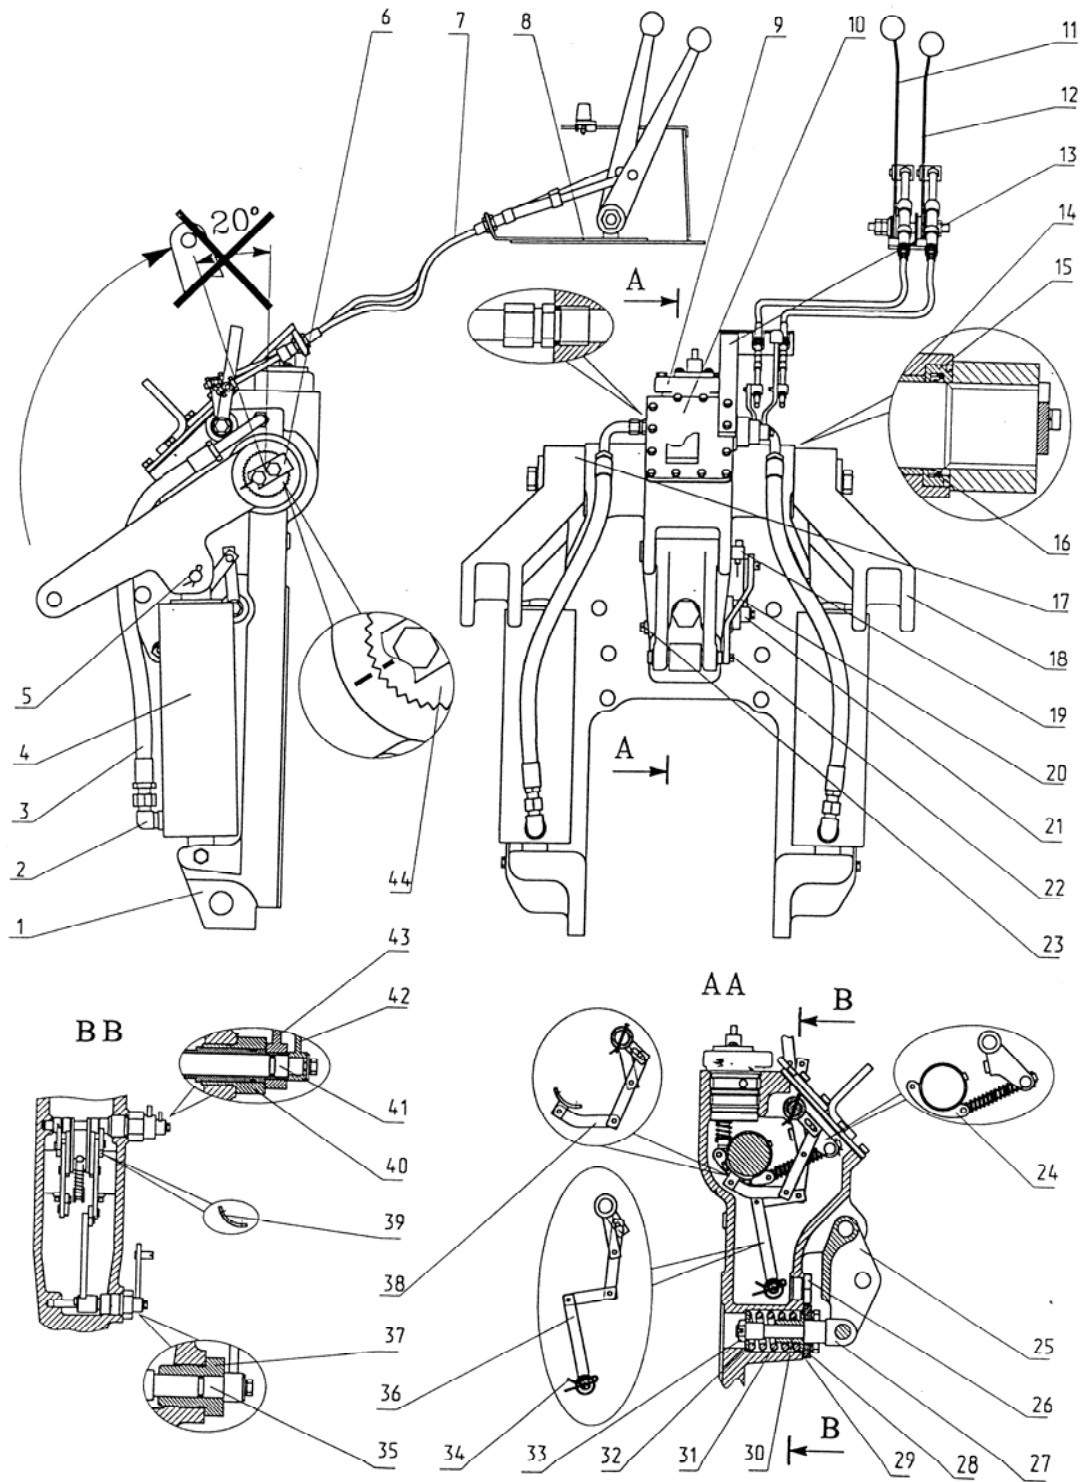

Figure 9.1
- 2) drain oil from body 1 of hydraulic hoist (Figure 9.1), gaving unscrewed drain conical plug 23 on the left side of hydraulic hoist;
Measure diameter of four bushings 14 (Figure 9.1) and adjacent diameters of swivel shaft sections 44, maximum difference of diameters must not exceed 0.5 mm. If necessary, press out and replace bushings or shaft. When replacing left- 17 and right-side 18 swivel levers put on new levers new marks corresponding to marks you made on removed parts.
- **on top bushing 40** (Figure 9.1) (leakage between bushing and body 1) and on hollow roller of power link 36 (leakage between bushing 40 and power lever 43):
- **on top roller 41** (Figure 9.1) (leakage between levers 42 and 43):
- on bottom bushing 37 (Figure 9.1) (leakage between bushing and body) and on bottom roller 35 (leakage between bushing and lever 21):